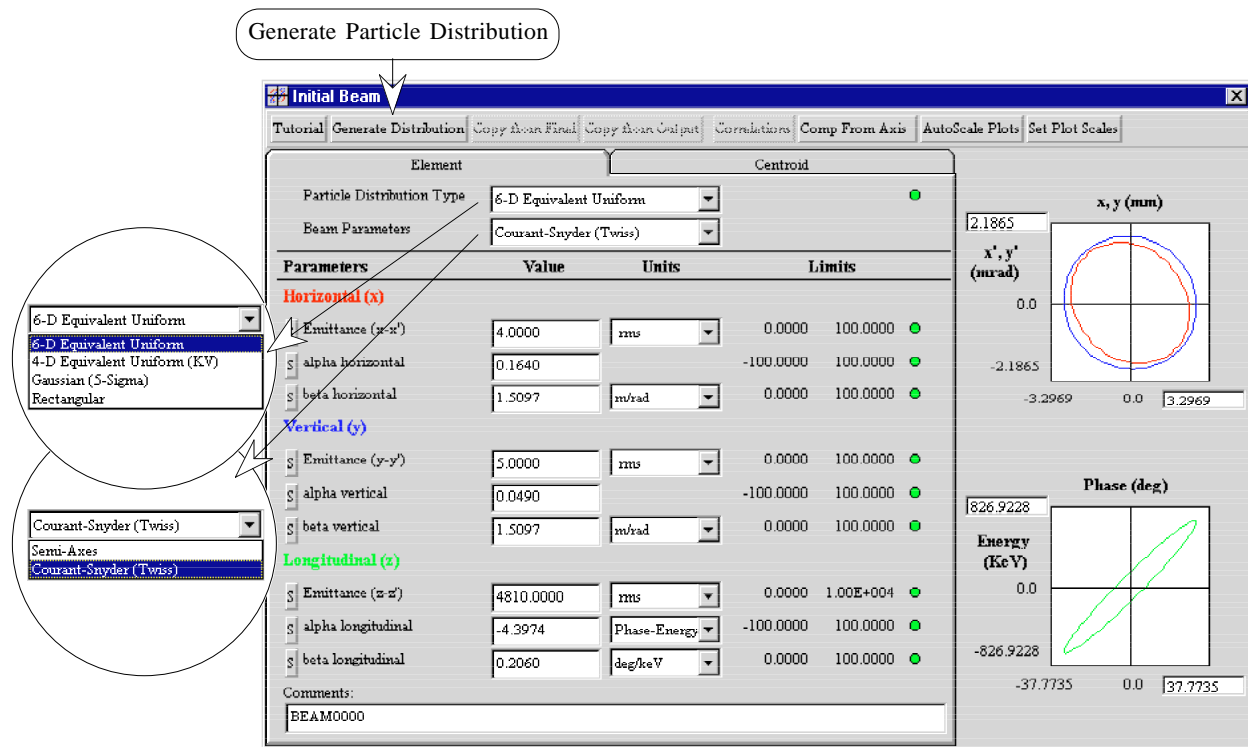

Figure 4 Beam Piece Particle Distribution.
The PBO Lab Beam Piece is used to select between four different particle distribution types for MARYLIE: 6-D Equivalent Uniform, 4-D Equivalent Uniform (KV), Gaussian (5-Sigma) and Rectangular. The distribution type is selected with the *Particle Distribution Type* pop-up at the top of the Beam Piece window. The Particle Distribution Type pop-up is shown in Figure 4, with the default 6-D Equivalent Uniform distribution type selected.
The MARYLIE initial particle distribution is also defined by the Twiss parameters in the Beam Piece window. The Courant-Snyder (Twiss) parameter set is selected in Figure 4, illustrating the Green Dots for the MARYLIE Application Context.